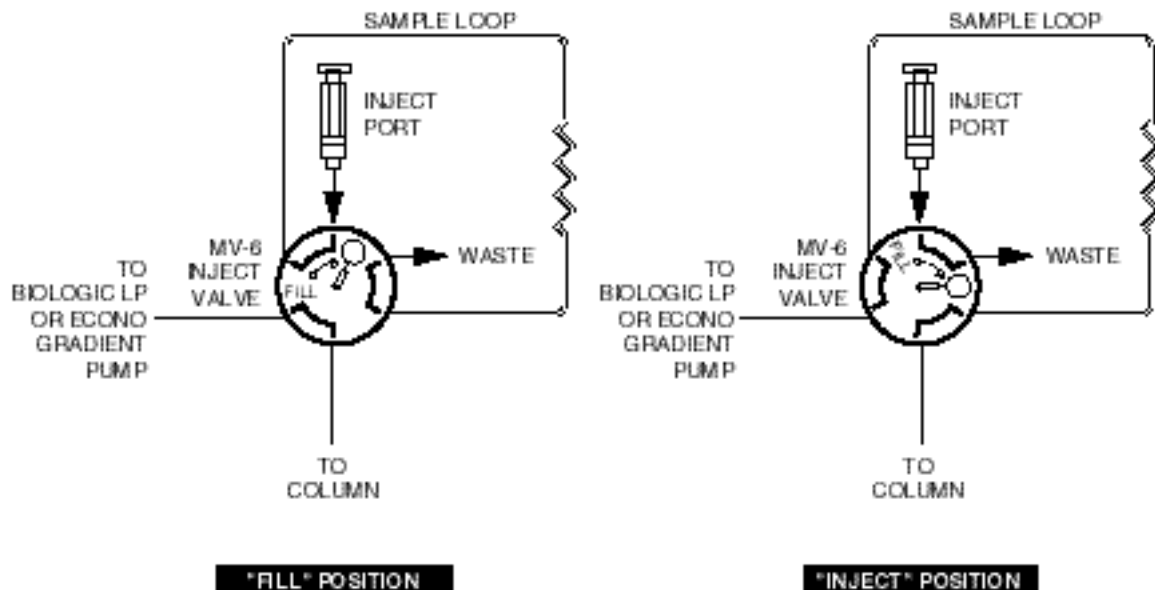

Figure 2. MV-6 Inject Valve Plumbing Configurations
2. Use male luer fittings to connect a section of tubing between the pump and the injector port, as shown in Figure 2.
5. Connect the pump inlet, waste and outlet line to the column as shown in Figure 2.